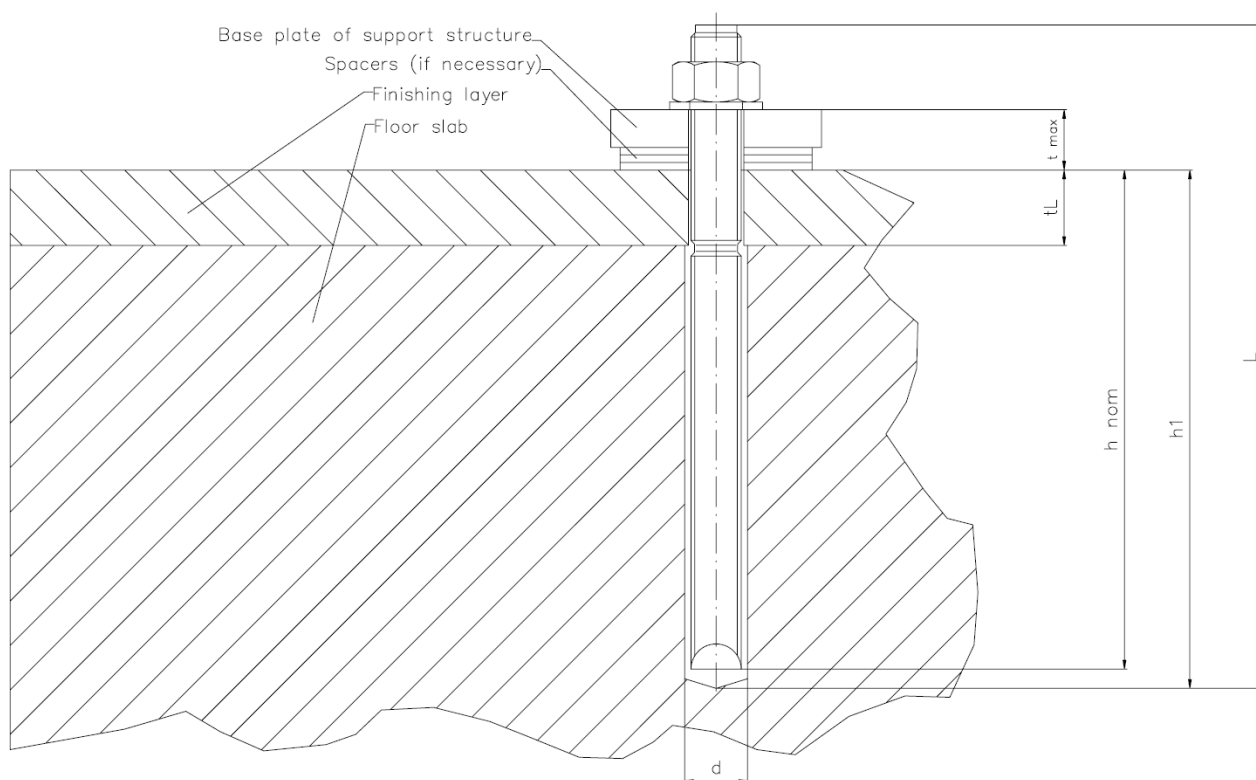

Fig. 8/1
Drill hole with drill. Check thickness t_L (Fig. 8/1) by measuring drill core sample (Fig 1/2).
1.4) Drill to required hole depth h_1 (Fig. 8/1). Do not exceed hole depth h_1 .